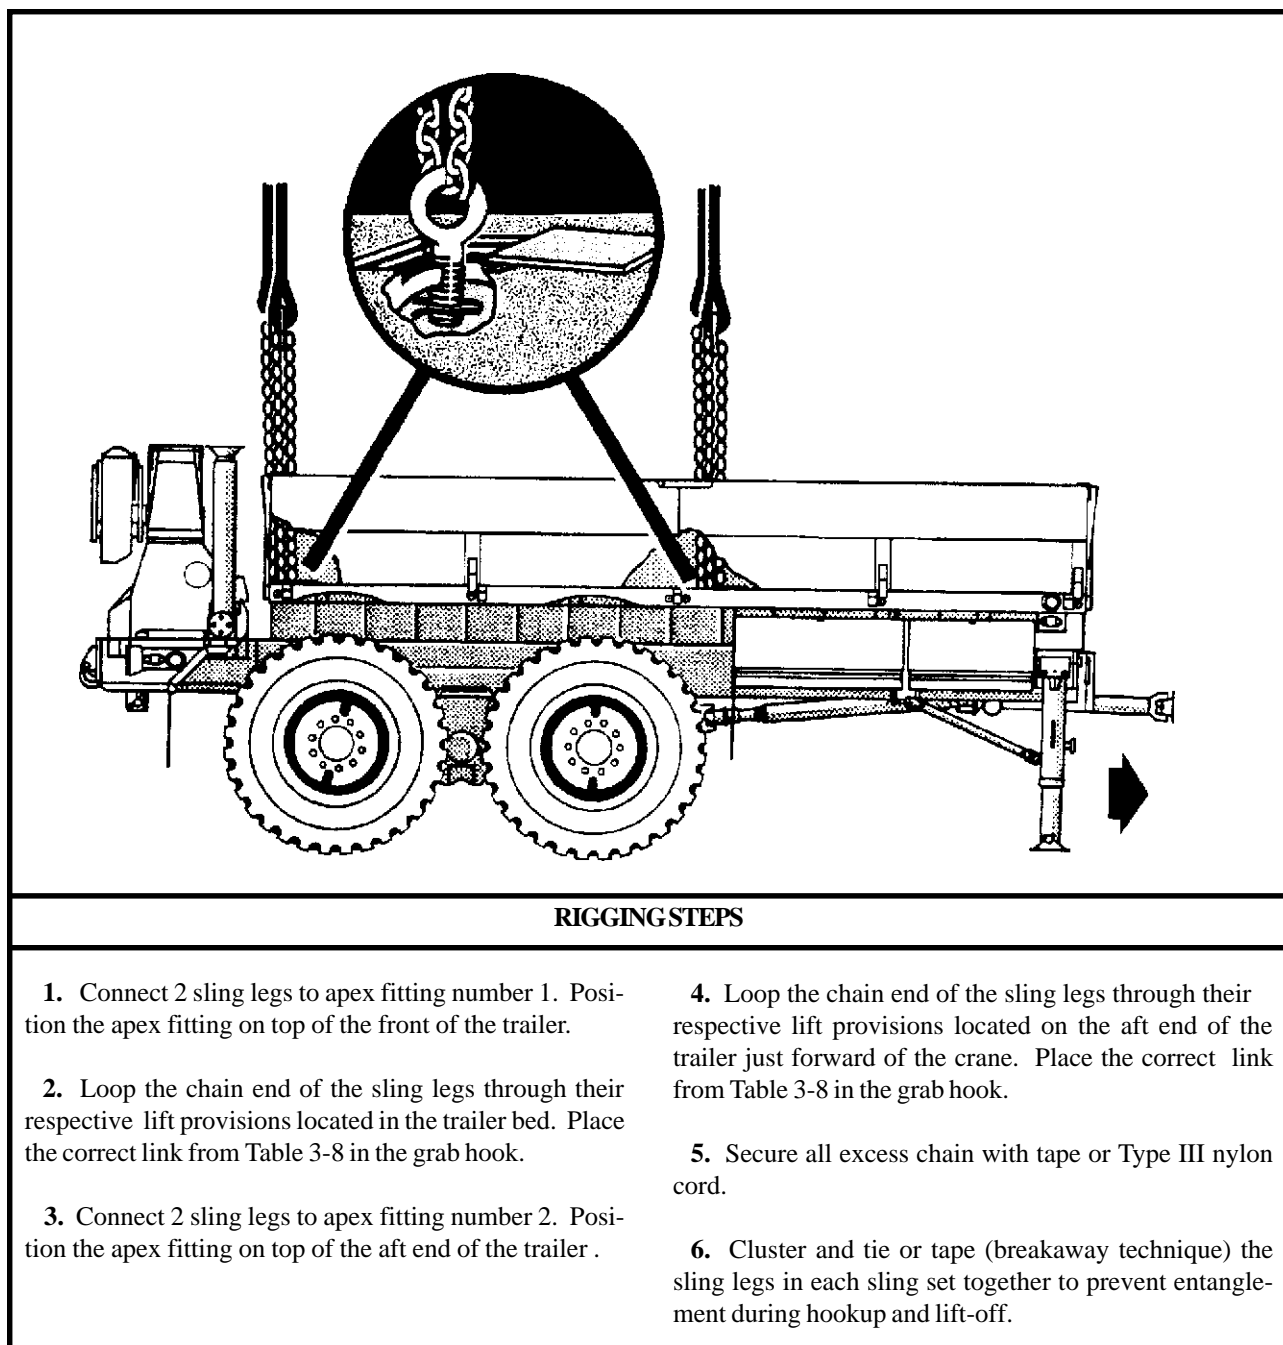

Figure 3-8. Mk17 Trailer, Drop Side, Cargo
(2) **Rigging.** Rig the load according to the steps in Figure 3-8.
(4) **Derigging.** Derigging is the reverse of the preparation and rigging procedures in steps d (1) and d (2).